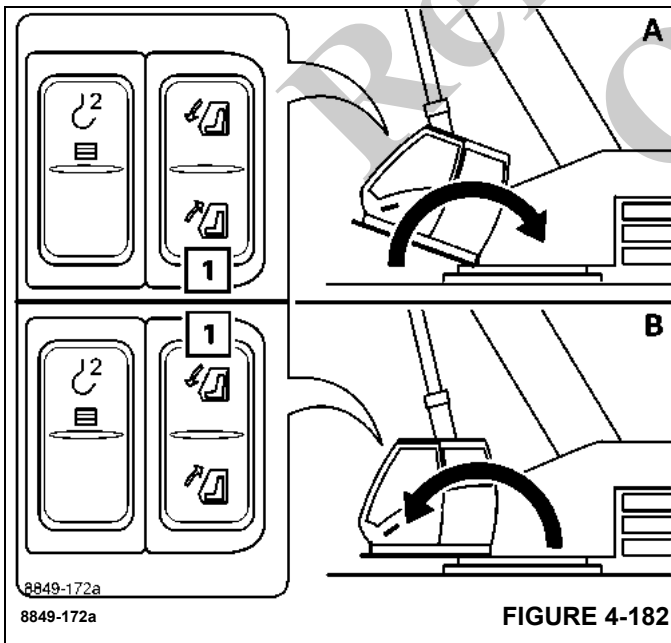

FIGURE 4-182
**(A) – Raise the Cab (See Figure 4-182)**
- Push the button (1) down.
**(B) – Lower the Cab (See Figure 4-182)**
- Push the button (1) up.